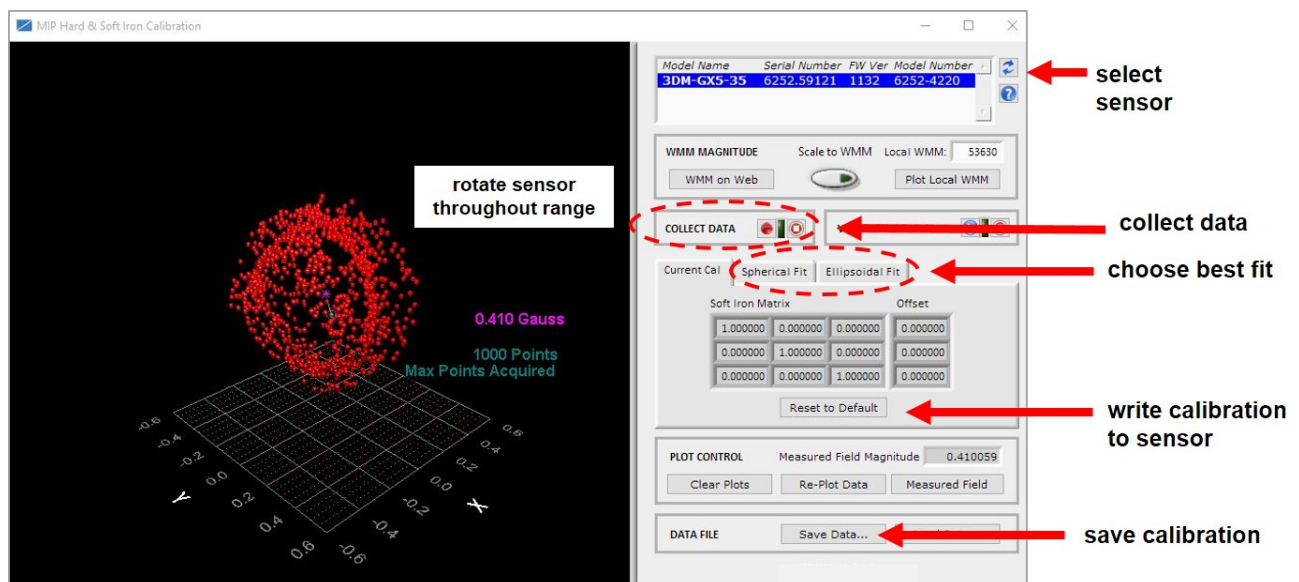

Figure 21 -Collect Calibration Data
- Click the Spherical Fit or Ellipsoid Fit button, depending on the application (Figure 21 - Collect Calibration Data). Spherical Fit is often best for applications with calibration rotations restricted to a 2D plane: for example, a ground vehicle or a boat, because it will not likely not be rotated on all three axis. Ellipsoid Fit is generally a better correction when soft iron effects are present but only if enough data points can be collected in all quadrants. If the range of motion is restricted in one dimension, the Spherical Fit may be